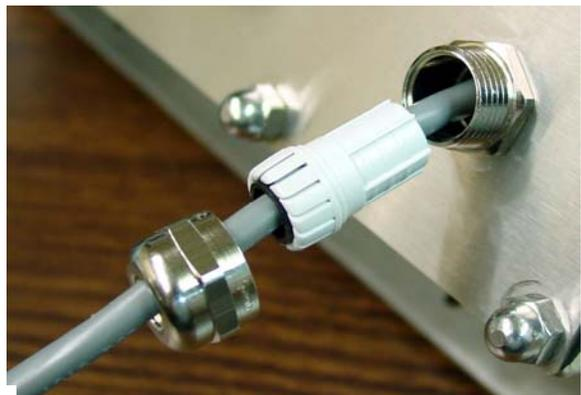

Figure No. 3
3. Referring to Figure No. 3, route the single cable from the load cell or load cell junction box through the nut and plastic insert and into the enclosure.